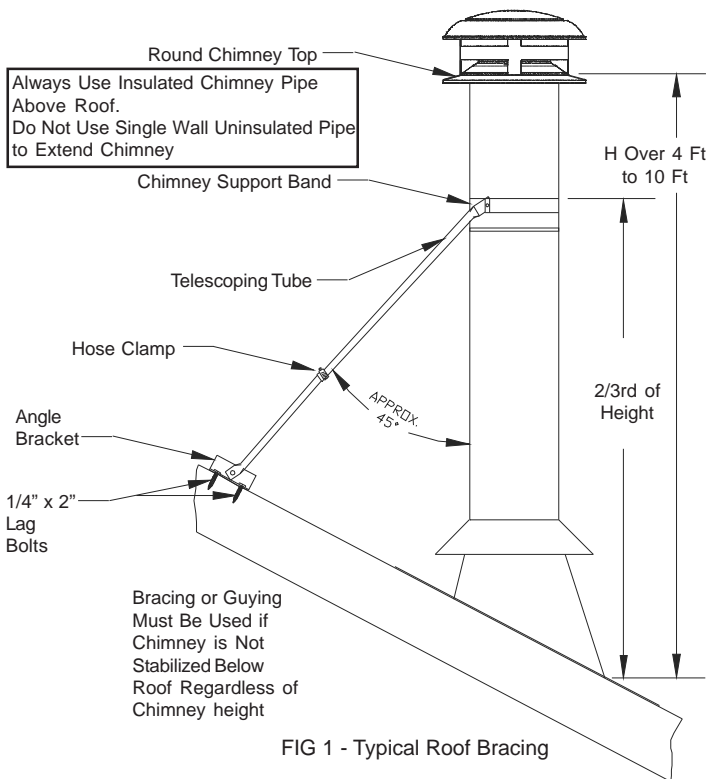

FIG 1 - Typical Roof Bracing
1. Form the Chimney Support Band into a half circle (if not preformed) and place around the chimney. If desired, use a length of chimney to help aid in forming shape. The Band should be located at a minimum height of 1/2 - 2/3 the height the chimney extends above the roof. See Figure 1.